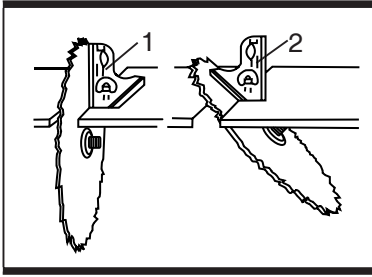

Fig 15
- 3) Use a square (1) to check the saw blade is at 90° (See fig. 15).
- 3) Use a 45° gauge (2) to check the saw blade is at 45° (See fig. 15).